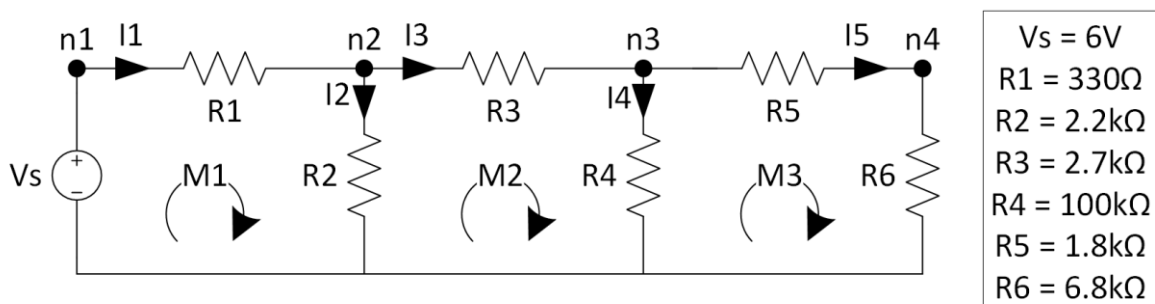

Figure 5
- i. Calculate all node voltages in Fig. 5 using node voltage method and write your results on Table-1.
- ii. Determine voltages across each component in Fig. 5 using calculated node voltages in the previous question and write them into related fields on Table-2.
- iii. Show that Kirchhoff's Voltage Law is satisfied for all meshes in Fig. 5 on related fields in Table-3.
- vi. Show that Kirchhoff's Current Law is satisfied for all nodes in Fig. 5 on related fields in Table-6
1. Build the circuit given in Figure 5 on the breadboard.